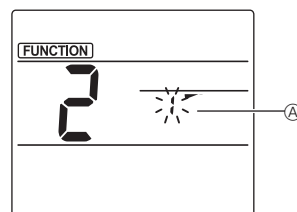

Fig. 2
② Labanumbri valimine (Fig. 2)